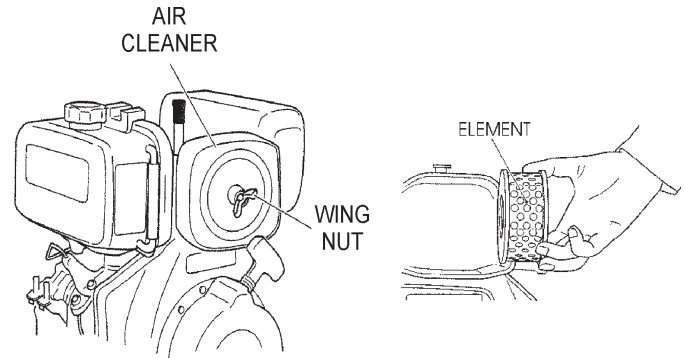

Figure 8. Air Cleaner Element
1. Loosen the wing nut and remove the air cleaner cover as shown in Figure 8.